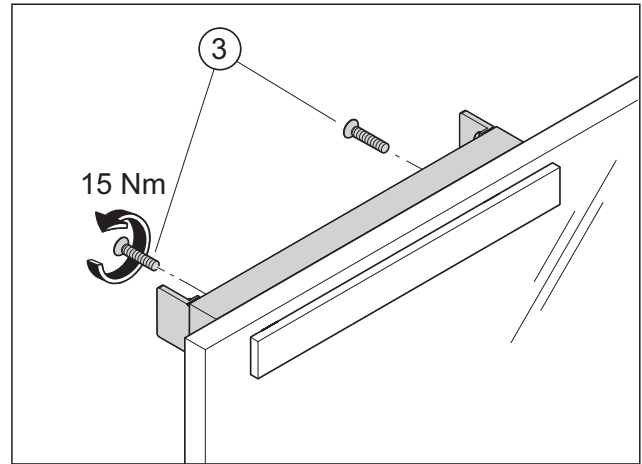

Fig. 12 Fix the screw-on plate and the counter-plate to the glass door
3. Fix the screw-on plate and the counter-plate to the glass door with a torque of 15 Nm (Fig. 12).